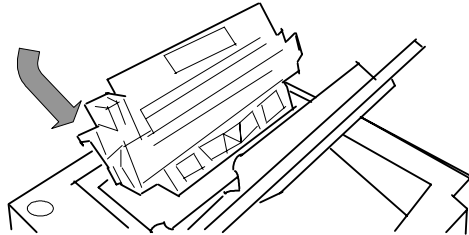

Figure 14. Sliding in the Cartridge
3. Position the cartridge as shown, with the arrow pointing into the printer. Slide the cartridge into the printer as far as it will go as shown in Figure 14 and close the top cover.